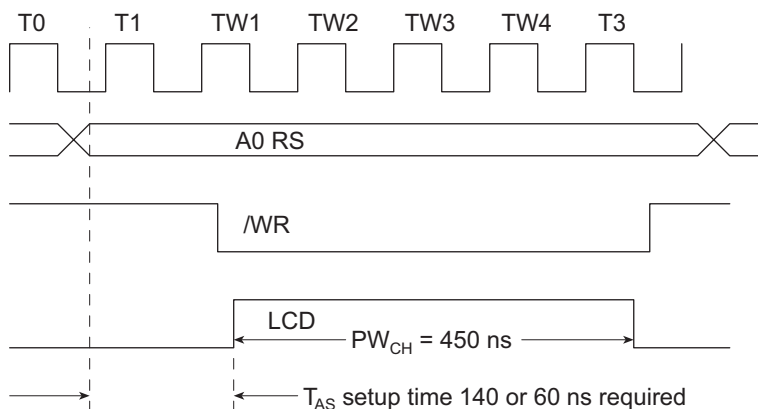

Figure 4-12. LCD Timing Chart
Figure 4-12 shows the timing chart for the LCD.
1. The timings in Figure 4-12 are for the Hitachi 44780 LCD chip. T_{AS} must be at least 140 ns and PW_{CH} must be 450 ns. However, many LCDs use the Hitachi 44780A instead of the 44780 controller. With the 44780A, the setup time T_{AS} is only 60 ns, and the pulse width PW_{CH} required is only 300 ns.